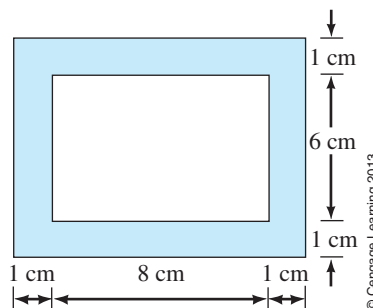

FIGURE 12-23
6. For the circuit of Figure 12-23, the length ℓ to use in Ampere's law is _____ [0.36 m, 0.32 m, 0.28 m]. Why?